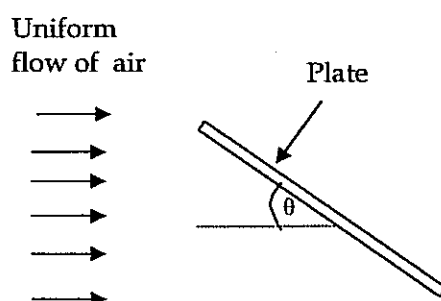

Figure 5
5) A flat plate is placed at an angle, θ , to a uniform horizontal flow of air, as shown in Figure 5.